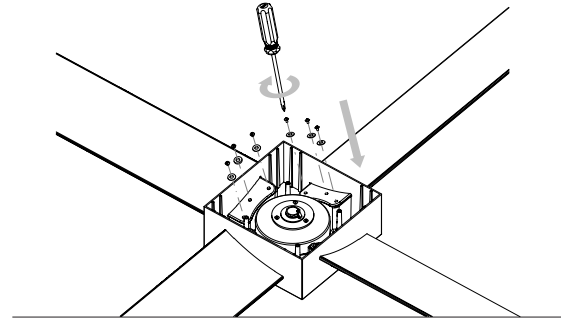

FIG.7
1. Place blade on motor as shown (**FIG.7**), and secure with the blade attachment screws and washers.